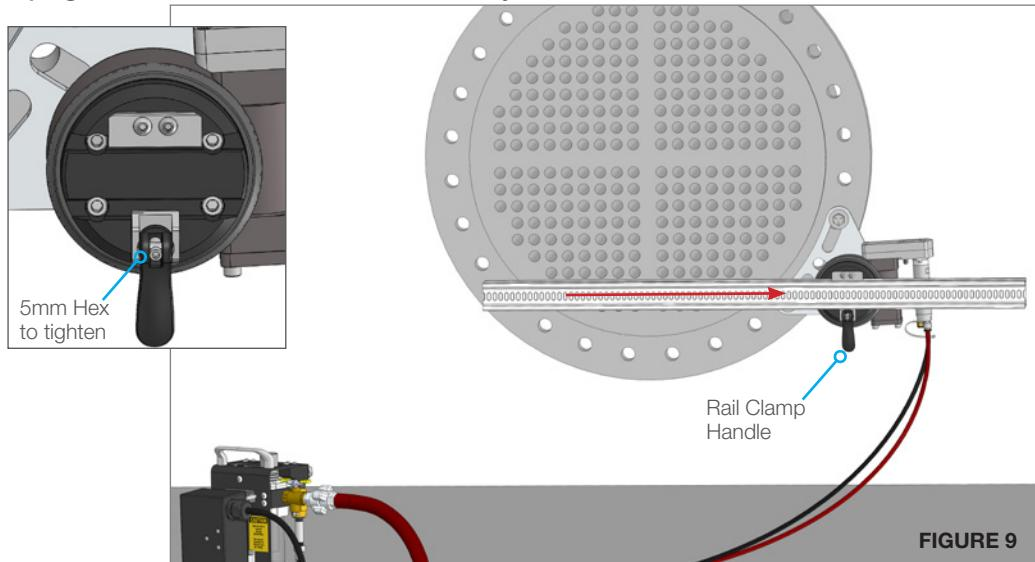

FIGURE 9
12. Open the Rail Clamp Handle on the Rotary Drive. Slide the Slotted Rail (Slots facing out) into the clamp on the Rotary Drive face. Push the Rail Clamp Handle on the Rotary Drive to secure in place. (**Figure 9**)